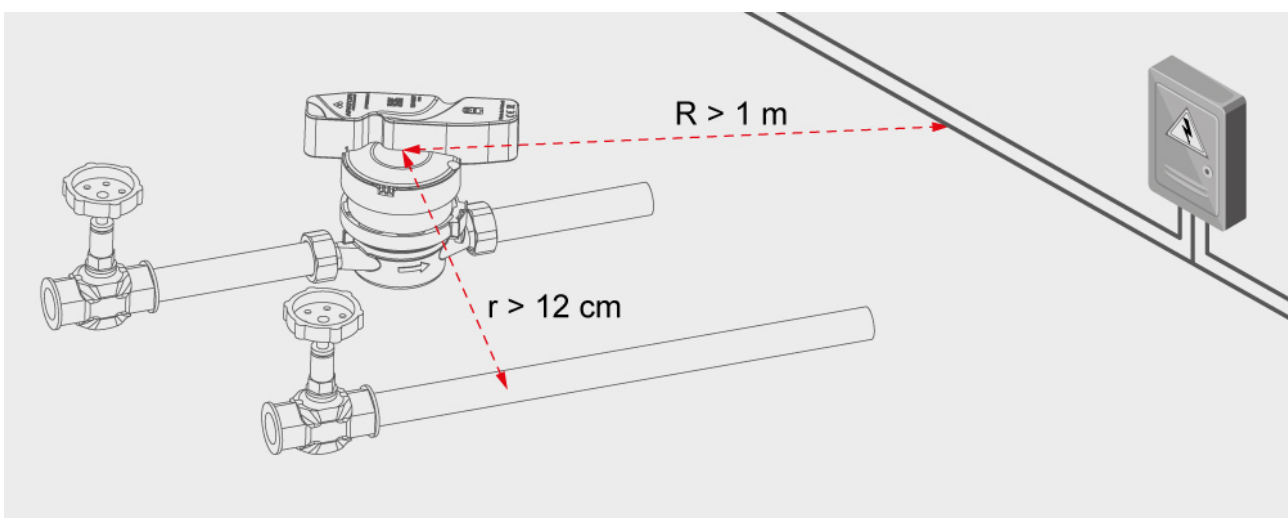

Fig. 5 Recommended minimum installation clearances for the water meter + module assembly near water supply and electrical wiring systems
- Install the water meter with the mounted universal induction module near water supply systems (steel and/or copper piping, other water meters, RF transmission devices, etc.) and/or electrical wiring respecting the clearances shown in Fig. 5.